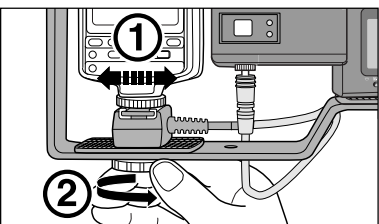

図 5/Figure 5/Abbildung 5/Figure 5/ Figura 5/Figur 5/Figura 5
- Adjust the position of the Speedlight by moving it left or right ① to a position where it will not come into contact with the camera and rotate the flash-bracket locking screw clockwise ② to fix it in place (Figure 5).